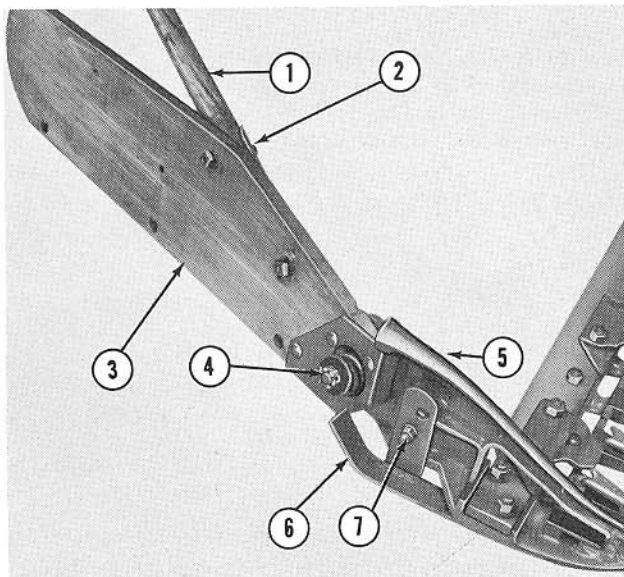

Figure 9
- a. Position the swathboard (3), Figure 9, on the right side of the outer shoe (5) and insert a
- a. Insert a $\frac{1}{2}$ " x $2\frac{3}{4}$ " bolt (4) from the left through the swathboard.
- b. Place a flatwasher, the spring, and then another flatwasher on the bolt (4) and secure with the castellated nut and cotter pin provided.
- c. Insert the tapered end of the wooden grass stick (1), Figure 9, into the grass stick clamp as shown and secure with the bolt (2), flatwasher, lockwasher and nut provided.